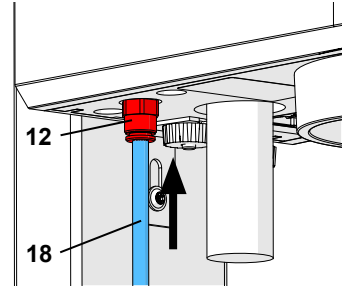

Fig. 5-a
! In previous devices, the inlet filter (13) was situated outside the device (Fig. 5-b). In these cases, push the compressed air hose (18) onto the inlet filter (13). There will be a slight resistance to overcome when attaching.